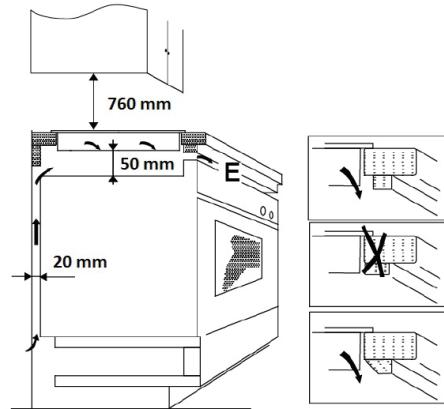

Fig. 6
- A separate cabinet without a cooking hood should be at least 760 mm above the hob (Fig. 6).
- For sufficient air circulation the appliance needs to be installed as shown in Fig. 6 and the cabinet must be designed so that the air can flow at the bottom. Make sure that the ventilation space of 20 mm, between the drawer and the rear wall and 50 mm between the drawer and the hob, is free (Fig. 6).